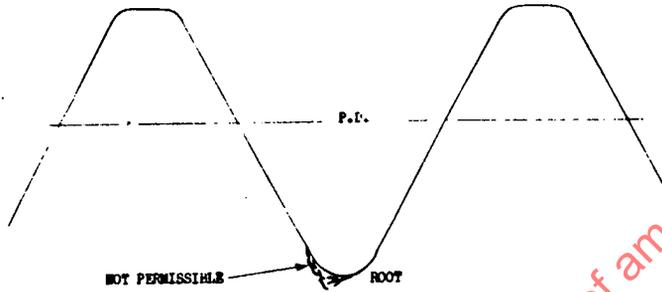

FIGURE 3
- 5.3.2 Threads shall have no multiple or single laps at the root or on the sides (see Figures 3, 4, and 5), except that slight laps are permissible at the crest, on the non-pressure side inside the pitch diameter, and on the sides outside the pitch diameter (see Figures 6, 7, and 8). Slight deviation from thread contour is permissible at the crest of the thread as shown in Figure 9; the incomplete thread at each end of the thread may also deviate slightly from contour.